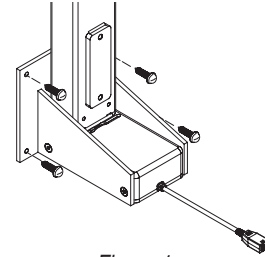

Figure 1
- ② Mount lifting column, control box and camera shelf assembly to mounting bracket inside cabinetry (see Fig. 1).